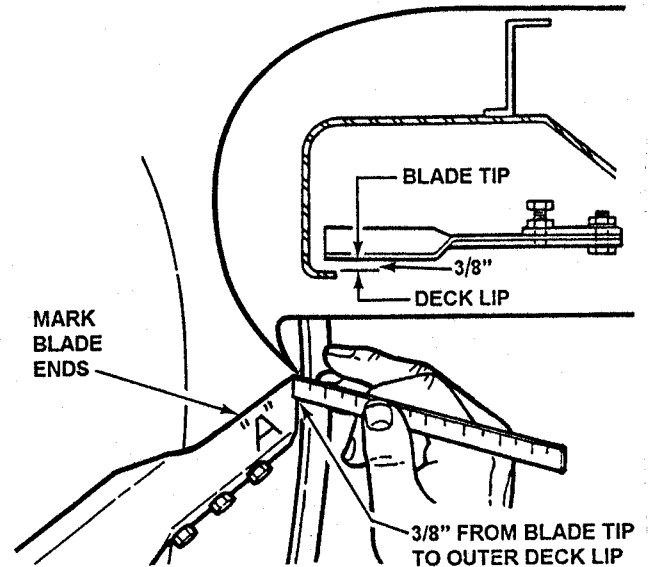

FIGURE 4.7
4. Measure the distance between deck lip and blade tip. This should be 3/8". See Figure 4.7.